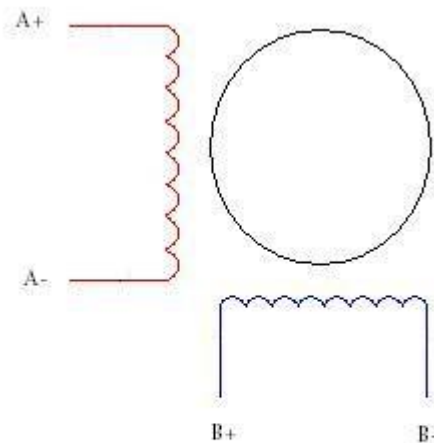

Fig 2 - Typical 4 wire Stepper motor
1. 4-wire motor: Connect one motor phase to A + and A – on the drive, and the other motor phase to B+ and B- on the drive. (Fig. 2)